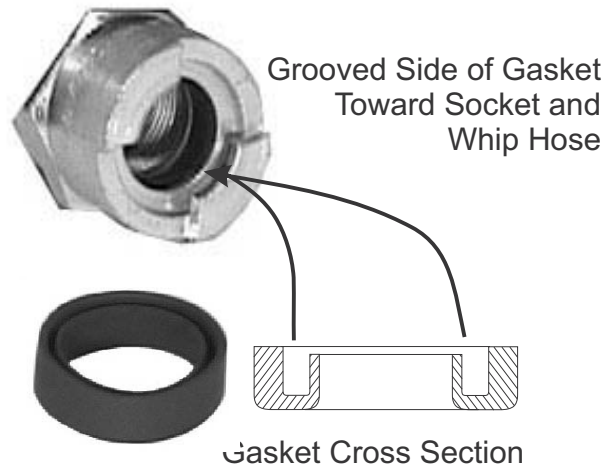

Figure 9-6. Insert New Gasket in Q.D. Socket.
1. With the grooved face of the Gasket (23) toward the Quick Disconnect (Q.D.) Socket (22) and Whip Hose (20), insert the new Gasket (23) into the Socket (22). Check that the gasket seats properly. Refer to Figure 9-6.